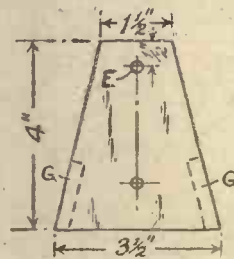
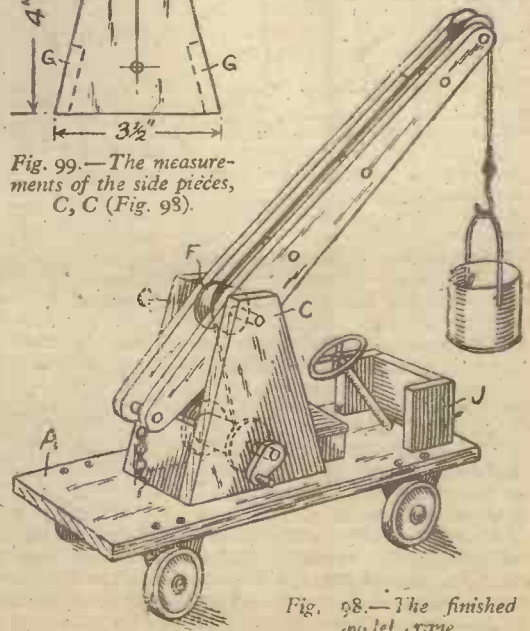

Fig. 99.—The measurements of the side pieces, C, C (Fig. 98).
Fig. 98.—The finished model crane.
This strong and instructive toy can easily be made with odd pieces of wood, a cotton reel, and pieces of wooden knitting-needles. For the platform (A) saw a piece of ¾ in. wood, 8 in. long by 3½ in. wide. Plane it on both sides and around the edges. Cut out four pieces of ¾ in. wood to the sizes given at B for the wheel bearings. These are screwed to the platform, as shown in Fig. 98, at a distance of ¼ in. front each end. Now saw the two side pieces (CC) to the dimensions given in Fig. 99, and carefully smooth the edges with a chisel. On the centre line of each piece make two holes as indicated, just large enough to allow a thick wooden knitting-needle to pass through.
other end is passed over the two pulleys (see Fig. 98), and tied to a small hook, which you can bend to shape from a piece of thick wire. The little bucket can be made from a tin and a piece of bent wire.